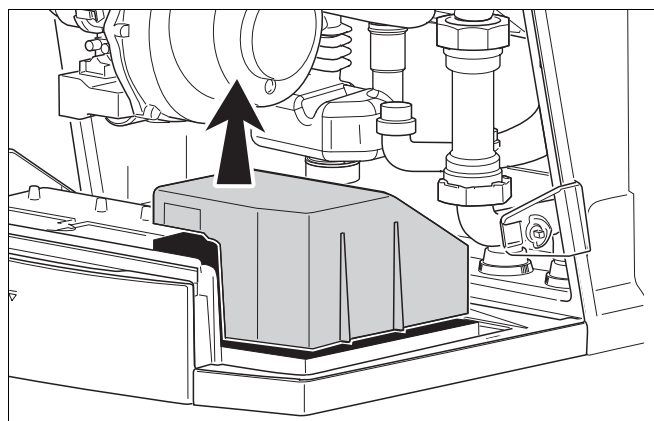

fig. 6 Removing the cover from the connection box
- Remove the cover from the connection box (fig. 6).